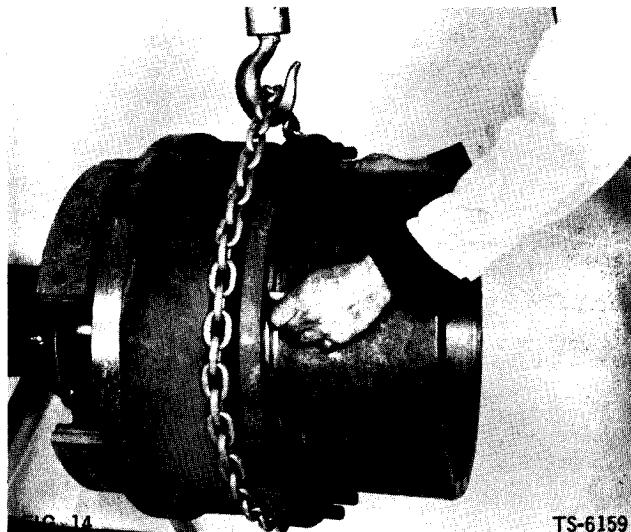

FIG. 14
14. Pull straight out on brake drum and hub assembly to remove it from axle (Fig. 14). Be sure brake shoes are in fully released position.